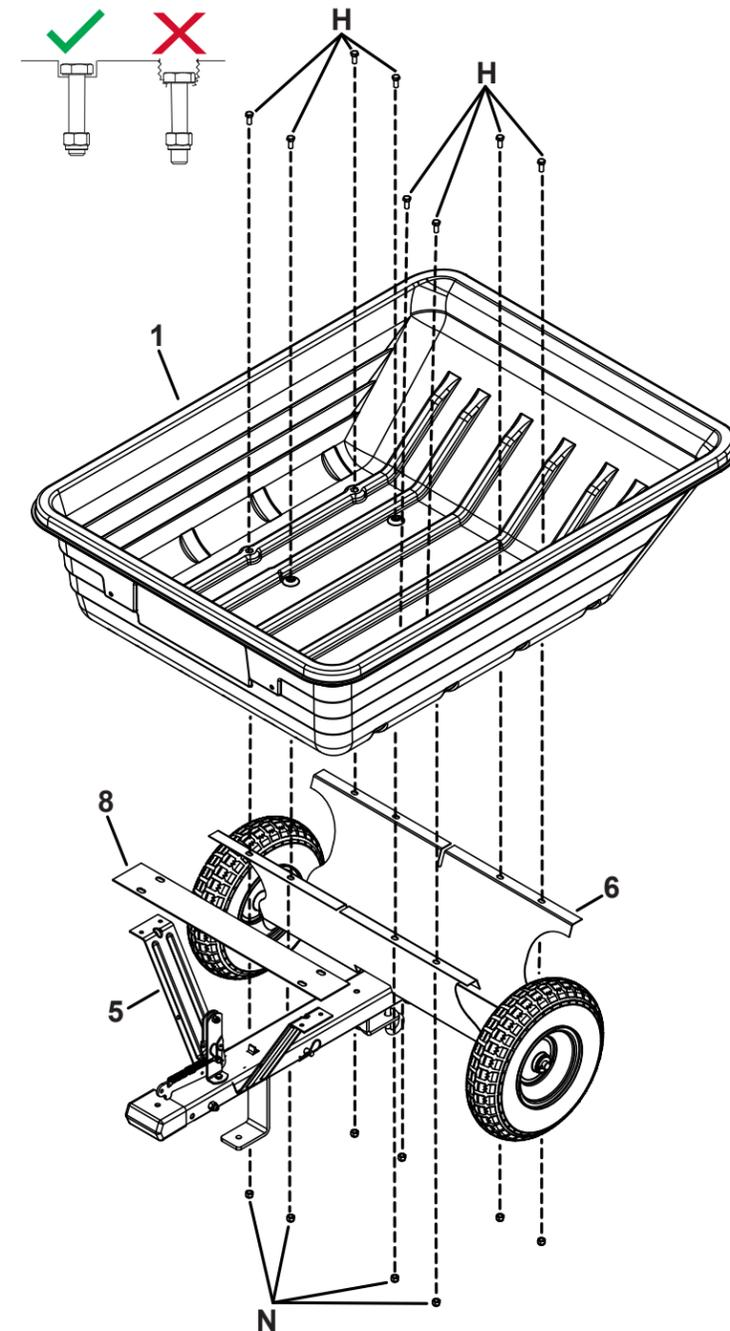

Figure 9
STEP 1 (SEE FIGURE 9): Place the latch stand plate (8) onto the latch stand bracket (5). Making sure the holes are lined up.
STEP 2 (SEE FIGURE 9): Place the cart bed (1) onto the wheel support (6) and latch stand plate (8). Make sure the cart bed (1) is positioned correctly per image below.
STEP 3 (SEE FIGURE 9): Install eight 5/16-18 x 3/4" bolts (H) into the rear eight holes on the cart bed (1). Bolts (H) will go through the cart bed (1) and wheel support (6).
STEP 4 (SEE FIGURE 9): Install eight 5/16-18 nylock nuts (N) onto the bolts installed in step 3.